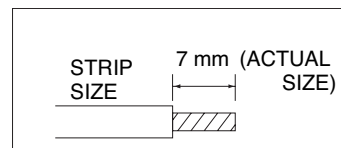

Fig. 26
- (1) Cut the wire end with a cutting pliers, then strip the insulation to expose the wire about 7 mm. See the label (Fig. 26) near the terminal plate.
- (2) Using a screwdriver, loosen the terminal screw on the terminal plate.
- (3) Insert the wire and tighten the terminal screw completely using a screwdriver.